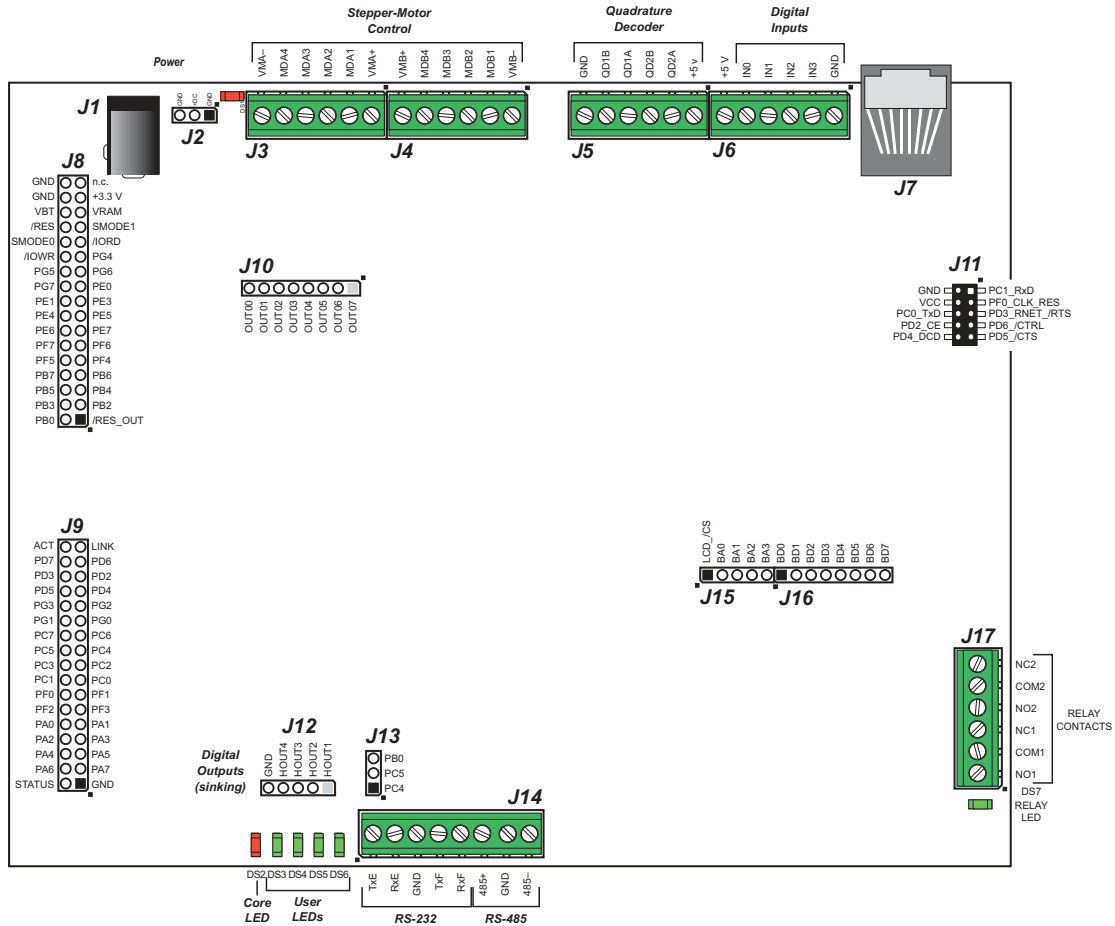

Figure B-4. Prototyping Board Pinout
- **Module Extension Headers**—The complete pin set of the RCM3900 module is duplicated at headers J8 and J9. Developers can solder wires directly into the appropriate holes, or, for more flexible development, 2×17 header strips with a 0.1" pitch can be soldered into place. See Figure B-4 for the header pinouts.
- **Digital I/O**—Four digital inputs are available on screw-terminal header J6. See Figure B-4 for the header pinouts.
- **Quadrature Decoder**—Four quadrature decoder inputs (PF0–PF3) from the Rabbit 3000 chip are available on screw-terminal header J5. See Figure B-4 for the header pinouts.
- **H-Bridge Motor Driver**—Two pairs of H-bridge motor drivers are supported using screw-terminal headers J3 and J4 on the Prototyping Board for stepper-motor control. See Figure B-4 for the header pinouts.
The Prototyping Board pinouts are shown in Figure B-4.